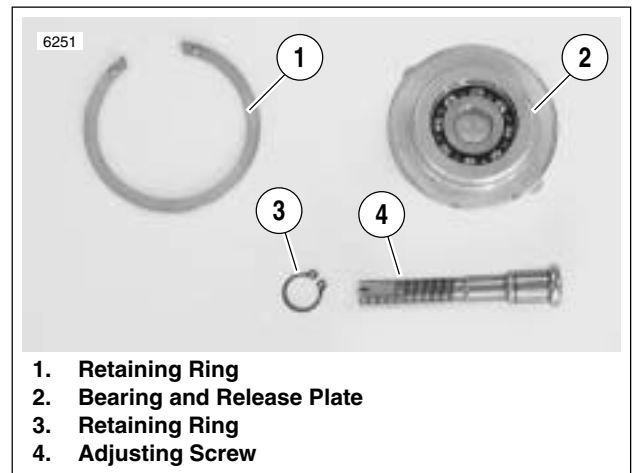
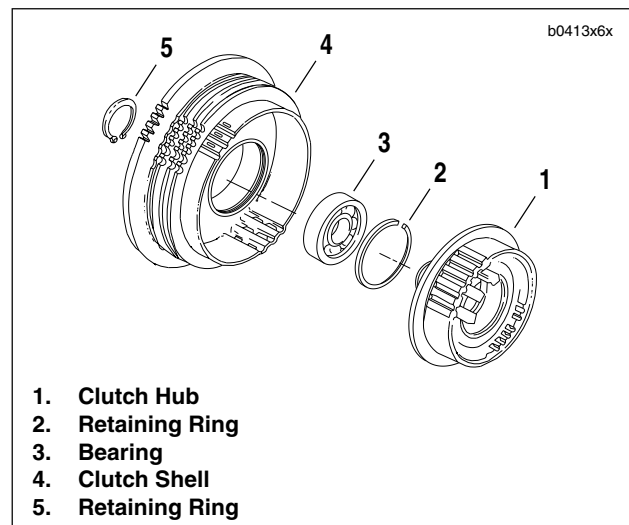

Figure 6-17. Adjusting Screw Assembly
Figure 6-22. Clutch Hub and Shell Assembly
4. See Figure 6-17. Remove adjusting screw assembly.
- a. Remove large retaining ring (1).
- b. See Figure 6-17. Secure the adjusting screw assembly with large retaining ring (1).
- a. Place a wrench on the clutch spring forcing screw (1) flats to prevent the forcing screw from turning.
- b. Turn the compressing tool handle (5) counterclockwise until the handle spins off.
- c. Remove washer (4), bearing (3) and bridge (2).
- d. Remove clutch spring forcing screw (1) from clutch adjusting screw.
- e. Remove spring seat (9) and diaphragm spring (6) from pressure plate (7).
11. See Figure 6-17. Remove and disassemble adjusting screw assembly.
- c. If necessary, disassemble adjusting screw assembly. Remove and discard small retaining ring (3) and then separate the adjusting screw (4) from the bearing and release plate (2). Remove bearing from release plate.
1. See Figure 6-22. Assemble clutch hub and shell if necessary.
- a. Press **new** bearing (3) in clutch shell (4). Secure bearing with a **new** retaining ring (2).
- b. Press inboard end of clutch hub (1) into shell bearing (3). Secure with **new** retaining ring (5) on end of hub.
- a. See Figure 6-17. Place bearing inside release plate. Insert adjusting screw (4) through bearing and release plate (2). Secure with **new** retaining ring (3).
- b. See Figure 6-17. Secure the adjusting screw assembly with retaining ring.